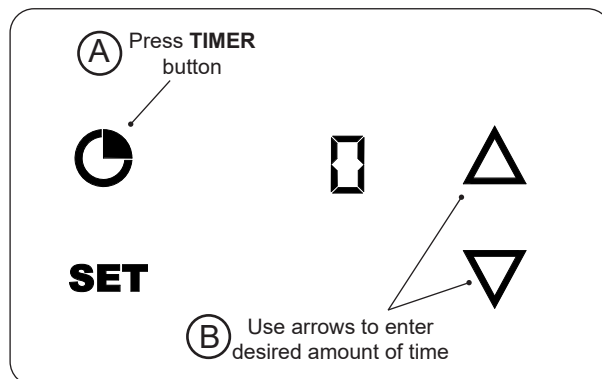

Fig. 42-1 Set timer
1. With the thermometer **on**, press the **TIMER** button once (Fig. 42-1, A). A zero will display indicating that no timer is set.
2. Press the **UP** or **DOWN** arrows to enter the desired amount of time (Fig. 42-1, B).